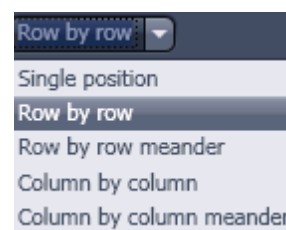

Fig. 46 Working direction drop down menu
- Select the working direction from the **Working Direction** pull down menu (Fig. 46).